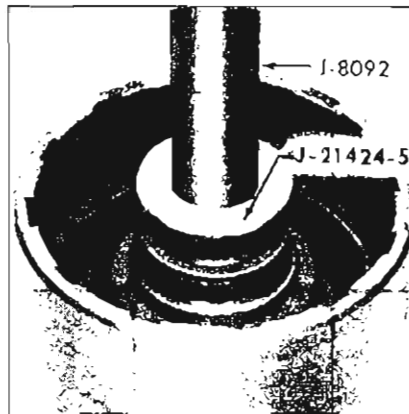

Figure 5-221
12. Check forward clutch drum bushing for nicks, severe scoring or wear. If bushing replacement is necessary proceed as follows: Using Tool J-21424-5, press damaged bushing from forward clutch drum. See Figure 5-221.